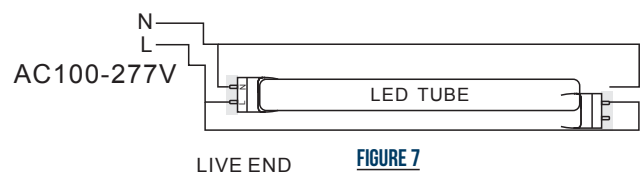

FIGURE 7
STEP 6: Identify one side of the Lampholder which connected to the supply circuit as the live end and marked as "LIVE END" or "L/N" for future reference (See Figure 7 OR 7A). Install the LED Lamp Tube to light fixture matching the power side (the side marked with "AC") of the lamp to the "LIVE END" side of the light fixture. Close the diffuser. This LED Retrofit kit is intended for use with maximum 4 lamps in light fixture with or without diffuser.